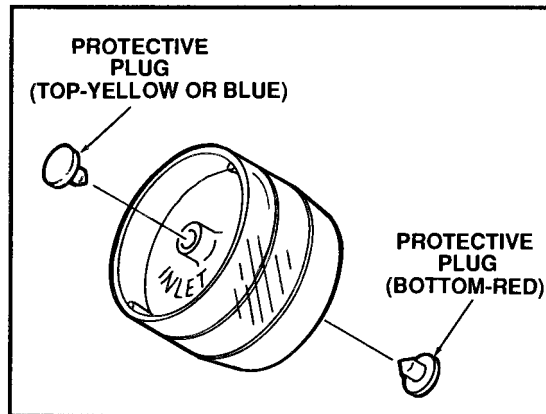

Figure 2.3 Removing Protective Plugs from Monitor
- a. With the quick-release valve in place, you are ready to select a monitor. Use **contamination** monitors (blue and red protective plugs) for color comparator testing and **matched-weight** monitors (yellow and red protective plugs) for gravimetric testing. Remove the plugs from the monitor: remove the bottom (red) plug from the monitor first, followed by the top (blue or yellow) plug (Figure 2.3). Keep plugs in a safe place for replacement on monitors when test is completed.